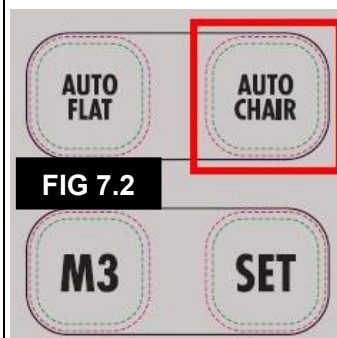

FIG 7.2
3.7.2 Auto Chair, position function – this chair or seated position has been pre-set for your convenience. To operate, *press & hold* the button on the handset labelled 'Auto Chair' until all actuators/functions have stopped moving and the desired chair position has been reached. **See Figure 7.2**